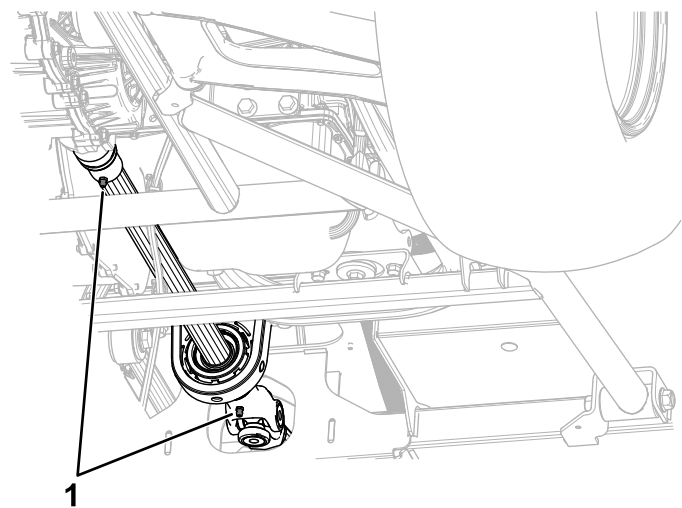

Figure 96
- **Drive shaft (2)**; refer to Figure 96